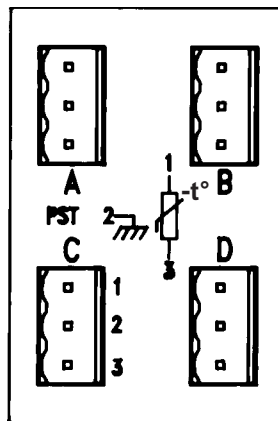

FIG.5 PST MODULE
**PST Module — see Fig.5**
The Keypad has 6 push-button switches which emit a low level tone when pressed. See Fig.5. Their functions are: